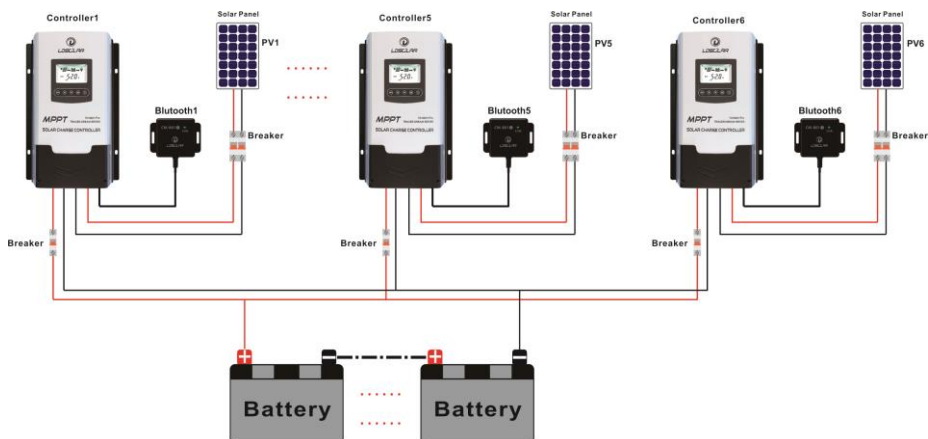

Figure 2-2 Schematic of wiring diagram
Connect the system in the order of ❶battery ❷ PV array in accordance with Figure 2-2, “Schematic Wiring Diagram”. and disconnect the system in the reverse order❷❶
❶Single controller
❷Connection in parallel